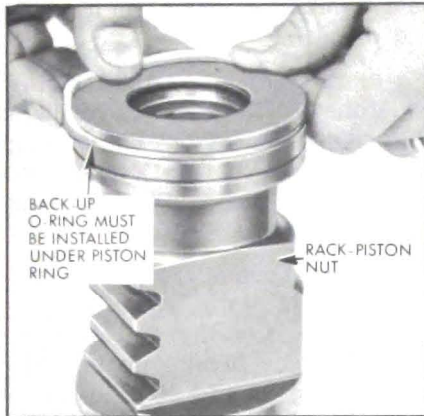

Figure 8-55—Installing Piston Ring on Rack-Piston Nut
2. Install new piston ring back-up "O" ring in groove on rack-piston nut. Place a new piston ring over the back-up "O" ring. See Figure 8-55.